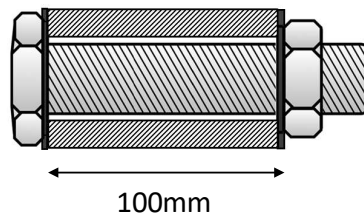

Figure Q3
3. The bolt and sleeve assembly shown in Figure Q3 is initially tightened so that there is no pre-stress at a temperature of 20 °C. The temperature of the assembly is increased to 70 °C. Determine the total extension of the assembly and the stress in the sleeve and the bolt if the bolt is made of steel with a cross-sectional area of 85 mm² and the sleeve of aluminium with a cross-sectional area of 235 mm². $\alpha = 11 \times 10^{-6} \text{ }^\circ\text{C}^{-1}$ and $E = 200 \text{ GPa}$ for steel and $\alpha = 23 \times 10^{-6} \text{ }^\circ\text{C}^{-1}$ and $E = 70 \text{ GPa}$ for aluminium.